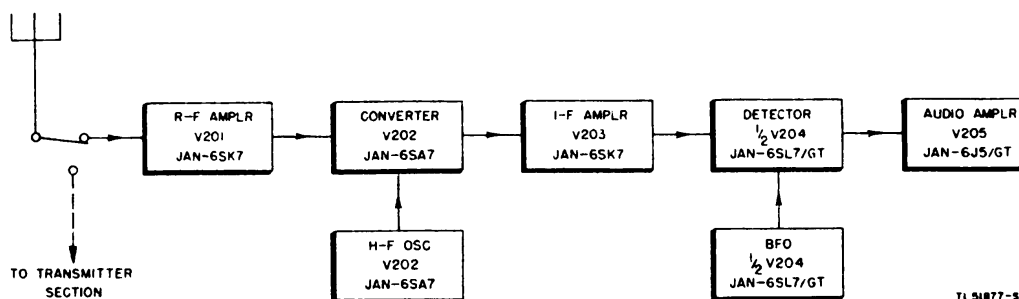

Figure 23. Receiver section, block diagram.
a. The receiver section of Receiver-Transmitter RT-46/TRC-10 is shown in the block diagram in figure 23. The same antenna is used for both receiving and transmitting, and switching between